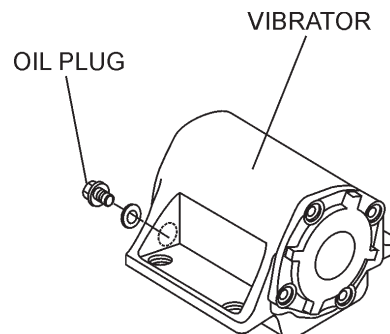

Figure 8. Vibrator Oil Plug
2. Check vibrator oil level by removing the plug (vibrator oil gauge) as shown in Figure 8. The oil level should be up to the oil plug. The vibrator holds 140 cc (approximately 4 oz.). **IMPORTANT**, if oil is required, replace using only SAE 10W-30 motor oil.